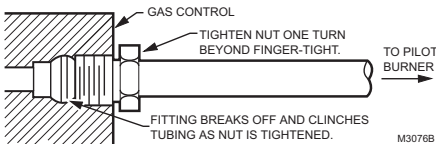

Fig. 6. Always use new compression fitting.
- Push the tubing into the pilot gas tapping on the outlet end of the control until it bottoms. While holding tubing all the way in, slide compression fitting into place and engage threads—turn until finger tight. Then tighten one more turn with a wrench. Do not overtighten. Refer to Fig. 6.